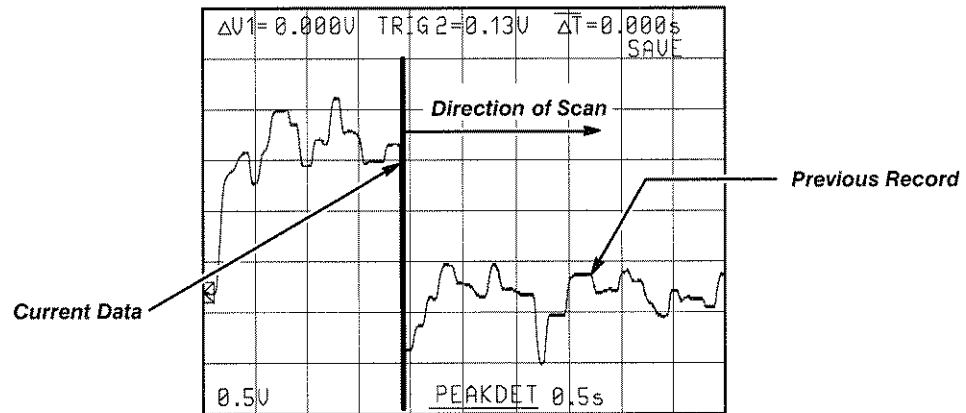

Figure 3-6: Scan Mode
- ☐ **Step 4:** Note that the acquisition record appears across the screen from left to right, then repeatedly overwrites the previous record with new data (Figure 3-6).